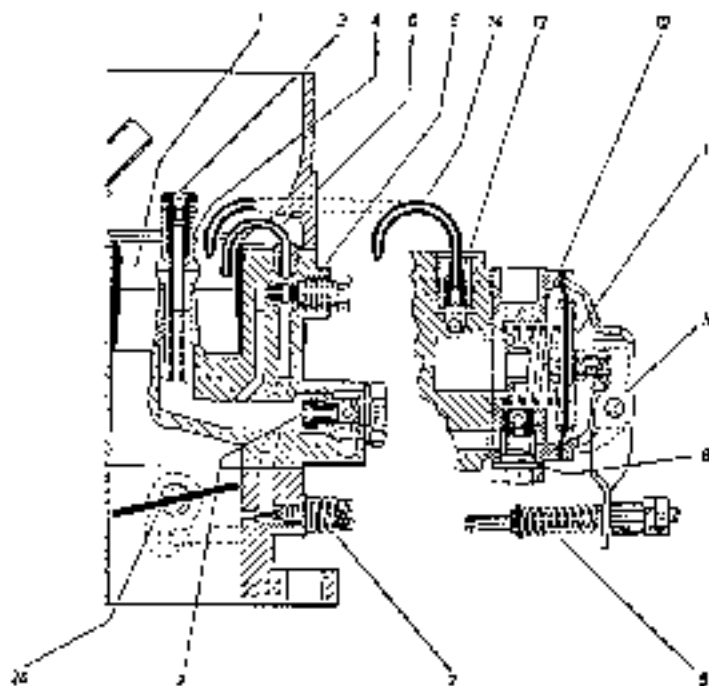

Fig. 07-0/19
During the injection the ball valve (8), which operates as a check valve, is closed. When the accelerator pedal is released, the diaphragm spring (12) presses the diaphragm (11) back. The ball valve (8) now operates as a through-way valve, whereas the ball valves below the bracket for the injection tubes (14) operate as check valves and prevent air from the carburetor suction canals from entering the pump system. (Fig. 07-0/19)